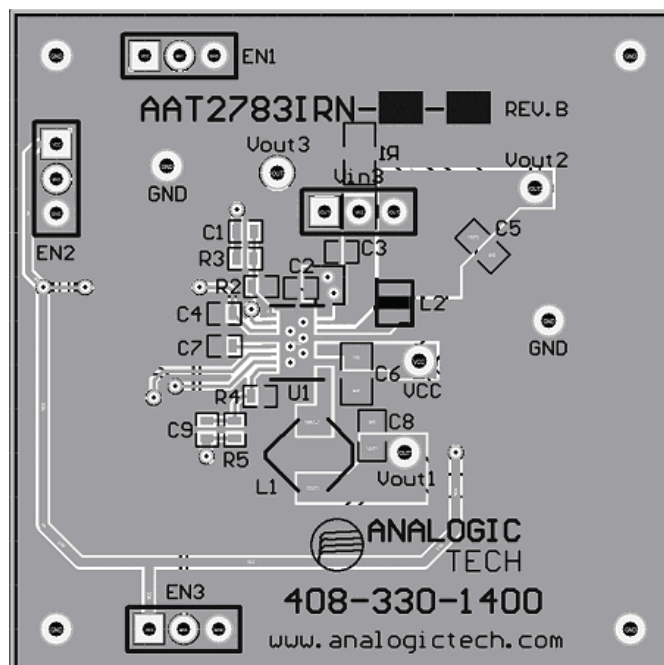

Figure 2: AAT2783 Evaluation Board Component Side Layout.
The term $\frac{V_O}{V_{IN}} \cdot \left(1 - \frac{V_O}{V_{IN}}\right)$ appears in both the input voltage ripple and input capacitor RMS current equations and is a maximum when V_O is twice V_{IN} . This is why the input voltage ripple and the input capacitor RMS current ripple are a maximum at 50% duty cycle. The input capacitor provides a low impedance loop for the edges of pulsed current drawn by the AAT2783. Low ESR/ESL X7R and X5R ceramic capacitors are ideal for this function. To minimize stray inductance, the capacitor should be placed as closely as possible to the IC. This keeps the high frequency content of the input current localized, minimizing EMI and input voltage ripple. The proper placement of the input capacitor (C1) can be seen in the evaluation board layout in the Layout section of this datasheet (see Figure 2). A laboratory test set-up typically consists of two long wires running from the bench power supply to the evaluation board input voltage pins. The inductance of these wires, along with the low-ESR ceramic input capacitor, can create a high Q network that may affect converter performance. This problem often becomes apparent in the form of excessive ringing in the output voltage during load transients. Errors in the loop phase and gain measurements can also result. Since the inductance of a short PCB trace feeding the input voltage is significantly lower than the power leads from the bench power supply, most applications do not exhibit this problem. In applications where the input power source lead inductance cannot be reduced to a level that does
The suggested PCB layout for the AAT2783 is shown in Figures 2 and 3. The following guidelines should be used to help ensure a proper layout.
1. The power input capacitors (C6) should be connected as closely as possible to VP1 and VP2, The LDO input capacitor (C3) should be close to VIN3 as shown in Figure 2. Due to the pin placement of VP1, VP2 and VIN3 for all converters, proper decoupling is not possible with just one input capacitor.